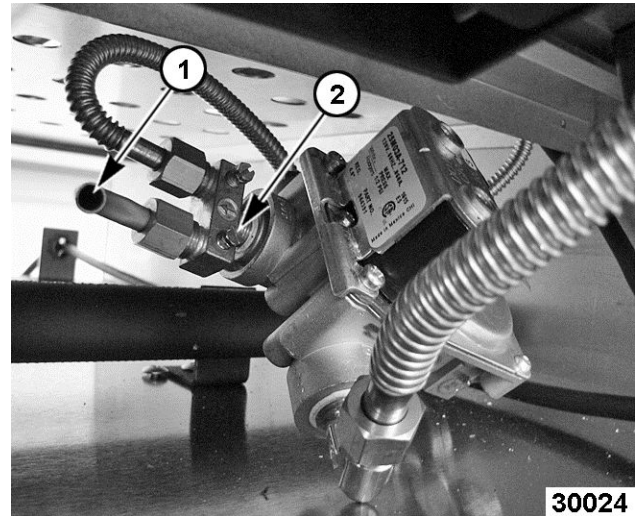

Fig. 25
3. Connect manometer to the manifold pressure check tubing (1, Fig. 25) for the gas valve being checked.
4. Open the needle valve (2, Fig. 25) on the pilot block fitting to allow gas pressure measurement.